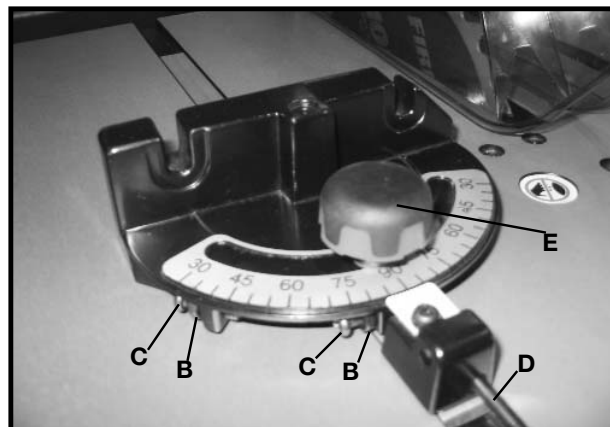

Fig. 41
This miter gage is equipped with individually adjustable index stops at 90 degrees and 45 degrees right and left. Adjustment to the index stops can be made by loosening lock nuts (B) Fig. 41, and tightening or loosening the three adjusting screws (C) until they contact the other end of stop pin (D) when the miter gage is at 90 and 45 degrees to the saw blade. Then, tighten lock nuts (B).
To operate the miter gage, simply loosen lock knob (E) Fig. 41, and move the body of the miter gage to the desired angle. When the stop pin (D) is pushed in, the miter gage body will stop at 90 degrees and 45 degrees right and left. To rotate the miter gage body past these points, pull out stop pin (D).